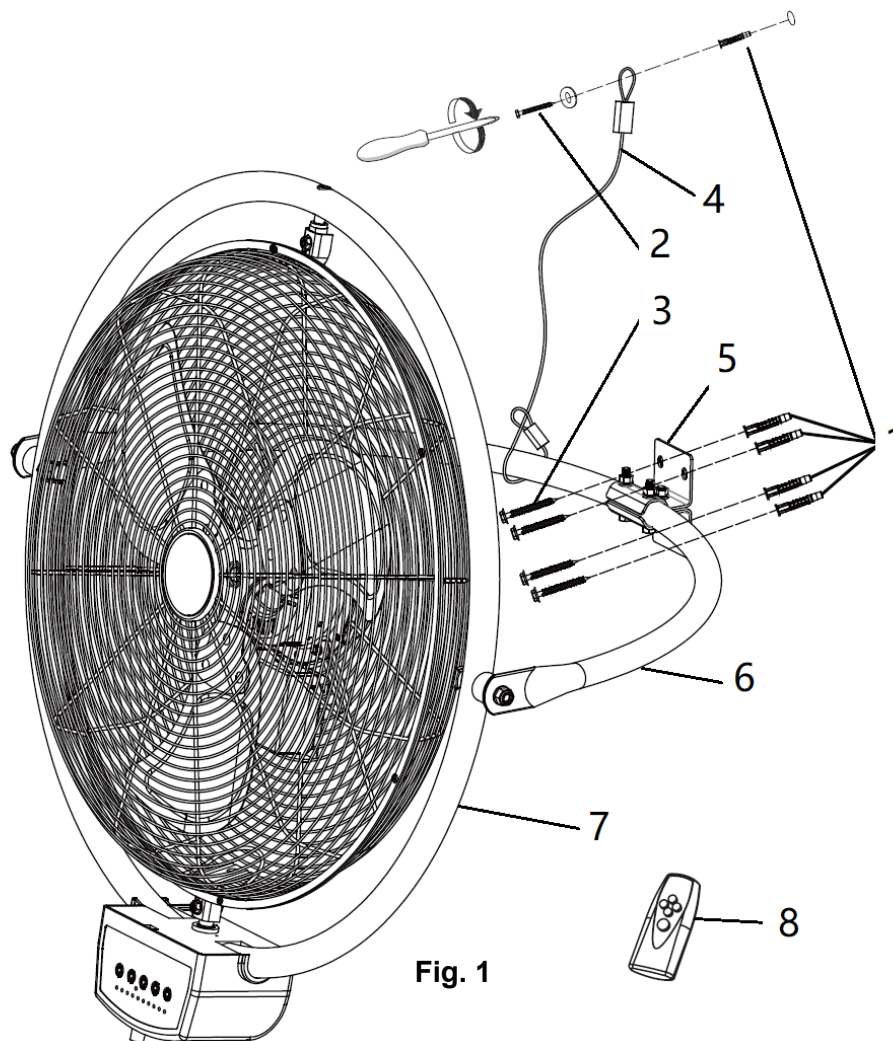
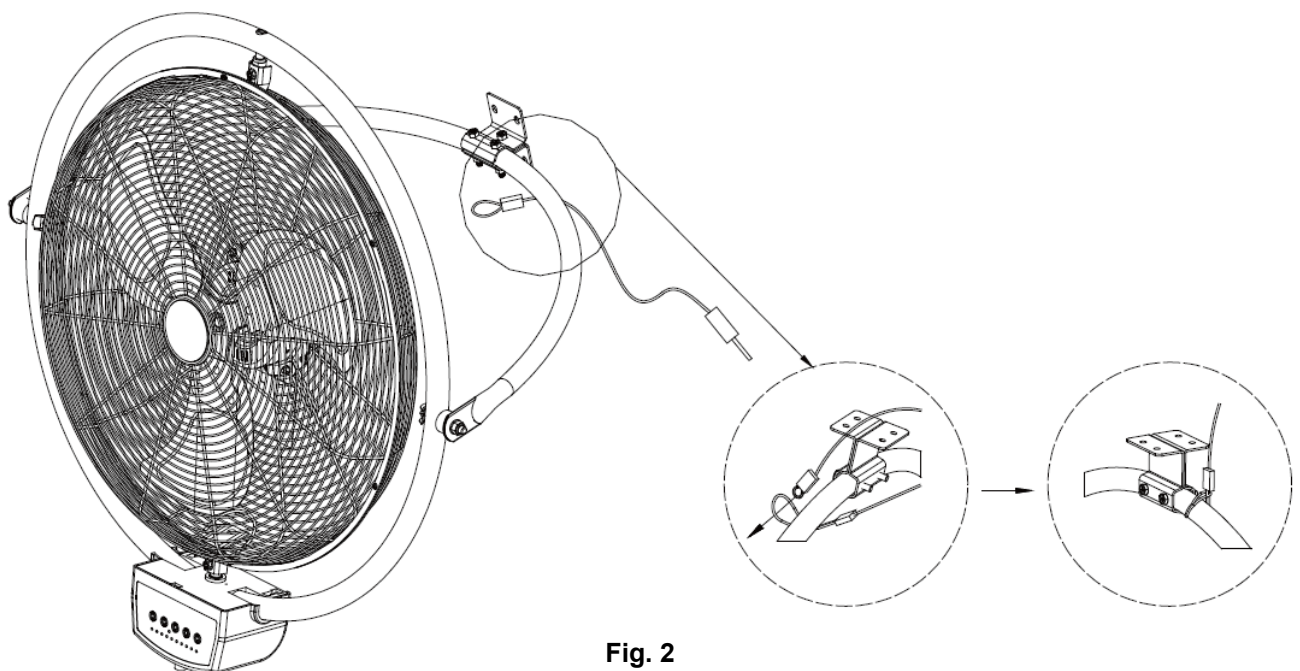

Fig. 1
Fig. 2
1. Use the mounting bracket (5) as a template to mark the screw hole positions onto the wall/ceiling.
3. Install the mounting bracket (5) onto the wall/ceiling using appropriate size mounting screws (3) and anchors (1). Ensure the mounting screws (3) and anchors (1) are suitable for the mounting surface and the surrounding environment.
4. Adjust the fan body upwards or downwards to your desired angle by pulling the fan body pole (7).
5. Wrap the safety steel cord (4) around the bracket pole (6 - Fig. 2) and secure the safety steel cord to wall/ceiling by tightening the screw (2 - Fig. 1).